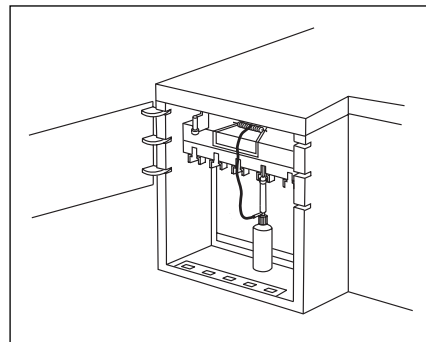

Figure 5.12
6. Open the pump compartment door (Figure 5.12) and load reagent bottle and dispenser in the correct component station (1 to 5 from left to right) with tubing connection facing out. Dispenser top should snap into position.